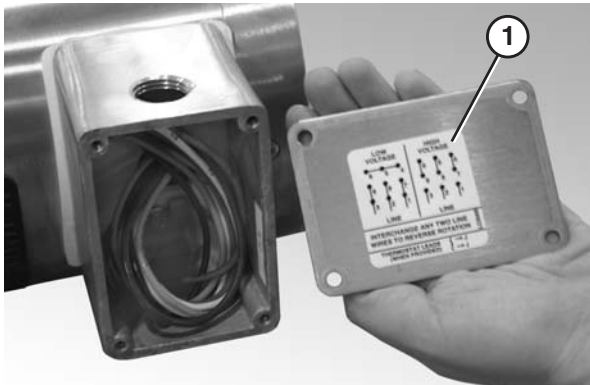

Figure 25
2. Refer to the wiring diagram (Figure 25, item 1) on the inside of the junction box cover.